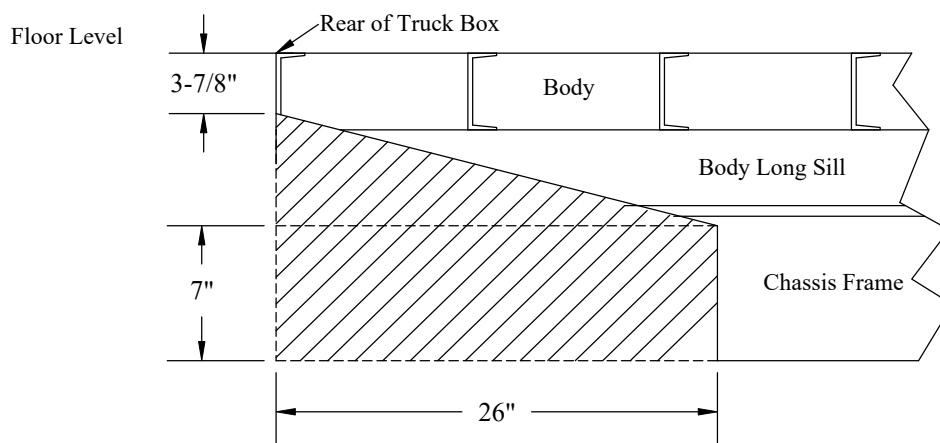
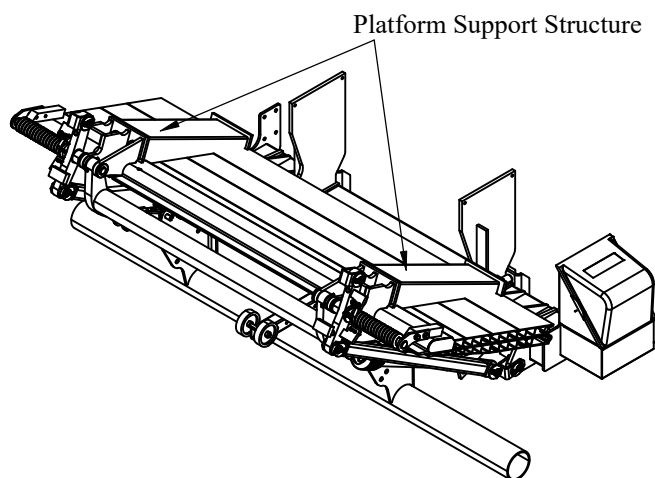

Figure 9: Frame Trim Dimensions.
Figure 10: Platform Support Structure.
5. **Measure** the truck frame for platform folding clearance using the layout (Figure 9) to provide clearance for the Platform Support Structure (Figure 10)